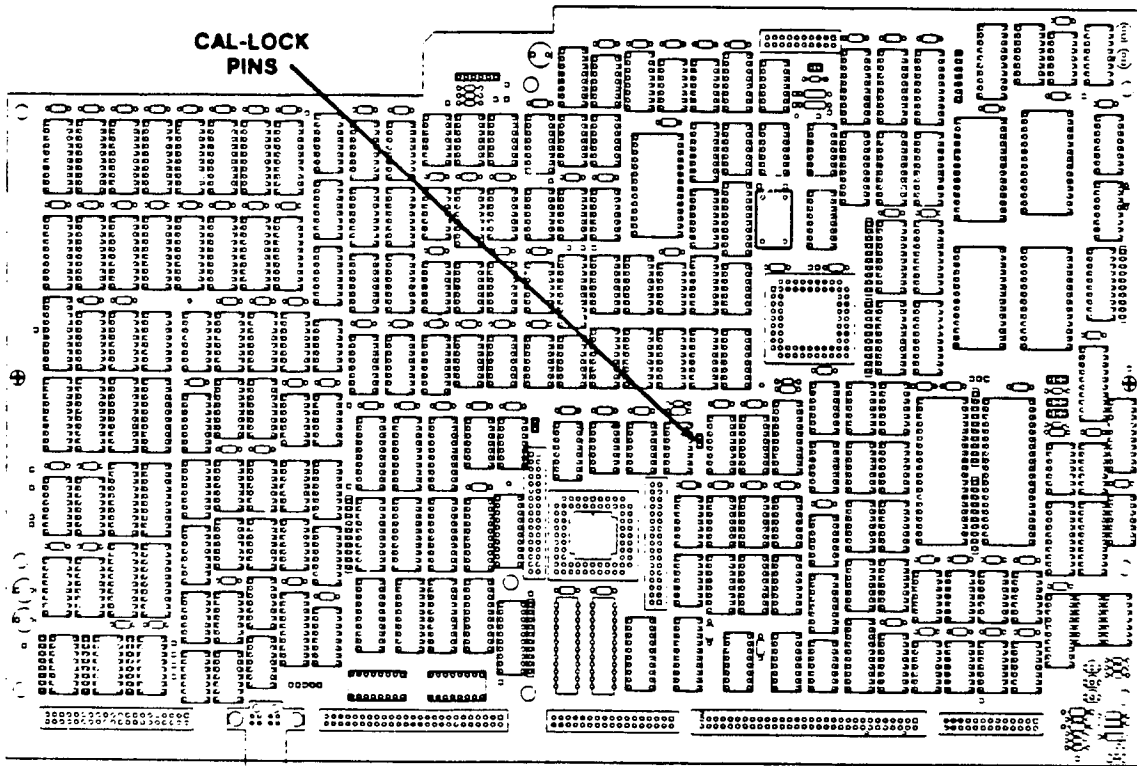

Figure 5. - 11401/11402 Time base ckt bd A6
- () 1. 11401 and 11402, remove the bottom cover of the mainframe and install a Term Conn Link (shorting strap) on the CAL-LOCK terminals located on the Time Base circuit board A6. Refer to Figure 5. for pin locations.